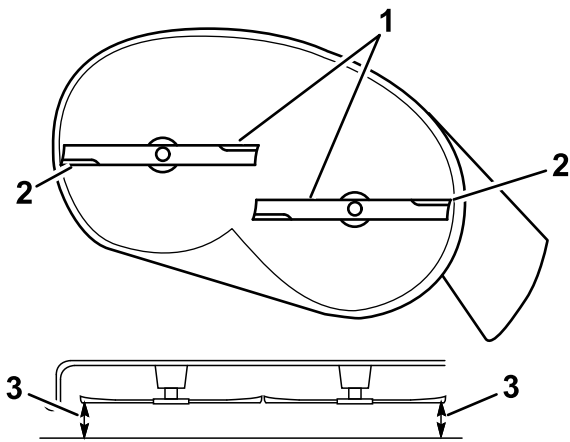

Figure 63
5. Measure between the outside cutting edges and the flat surface (Figure 63).
4. After adjustment, check the front-to-rear slope again, continue adjusting the nut until the front blade tip is 1.6 to 7.9 mm (1/16 to 5/16 inch) lower than the rear blade tip (Figure 63).